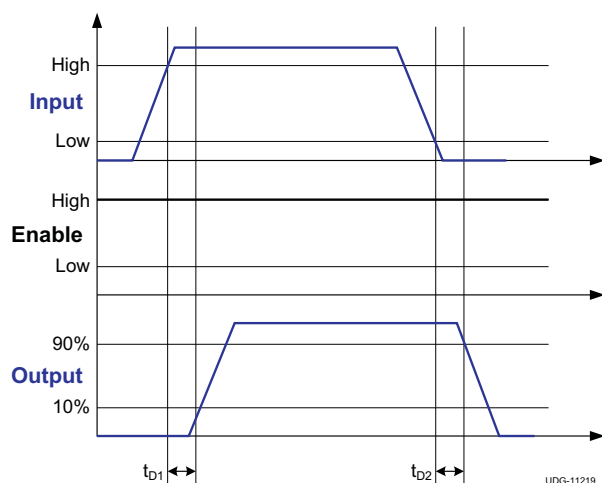

Figure 3. Non-Inverting Input Driver Operation
(3) See timing diagrams in Figure 1, Figure 2, Figure 3 and Figure 4